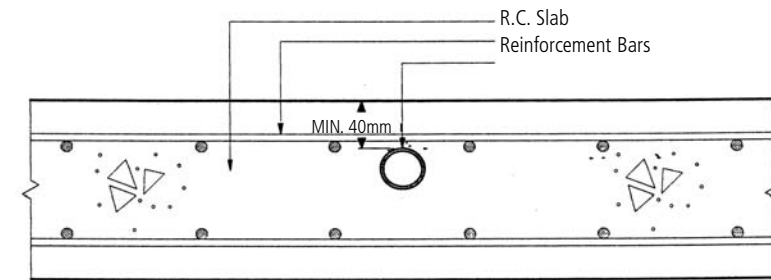

FIG. 7 PIPING EMBEDDED IN CONCRETE FLOOR
- 4.5.2 Pipe shall be surrounded with a minimum of 40 mm of concrete. (Fig. 7)